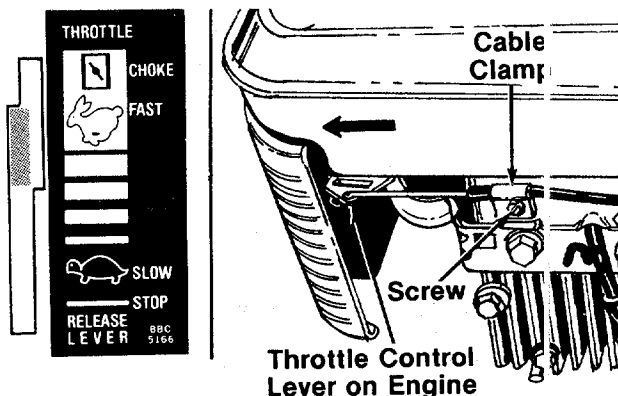

FIGURE 8.
8. Move throttle control lever on handle forward until it stops in "Fast" position. (**Do not** push all the way forward to "Choke" position.) See figure 8.
9. Slide the throttle control lever on the engine as far toward the outside of the engine as it will go **easily** as shown in figure 8. (**Do not** force it into the extreme outside position, which is the "Choke" position.)
11. Loosen the screw on the cable clamp shown in figure 8. Slip the control casing under the clamp. With the throttle lever on the engine still in the "Fast" position, tighten the screw to secure the throttle control cable. Be certain the clamp is positioned so it holds the cable in a straight line, parallel to the engine shroud.